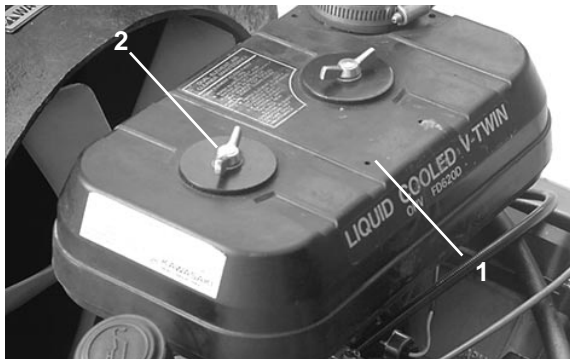

Figure 19
1. Remove the wing nuts securing the air cleaner cover and remove it (Fig. 19). Clean the cover thoroughly .